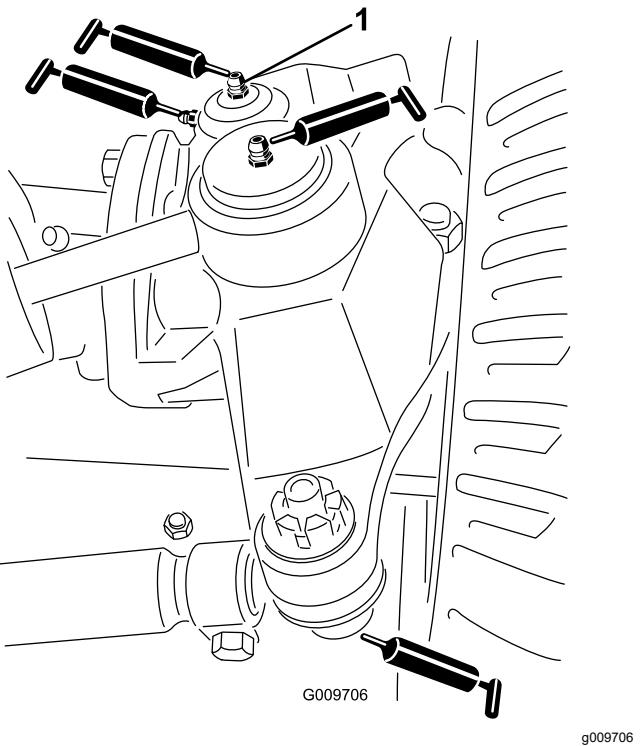

Figure 103
- Steering cylinder ball joints (2), refer to Figure 103
- Tie rod ball joints (2), refer to Figure 103
- King pin bushings (2), refer to Figure 103.